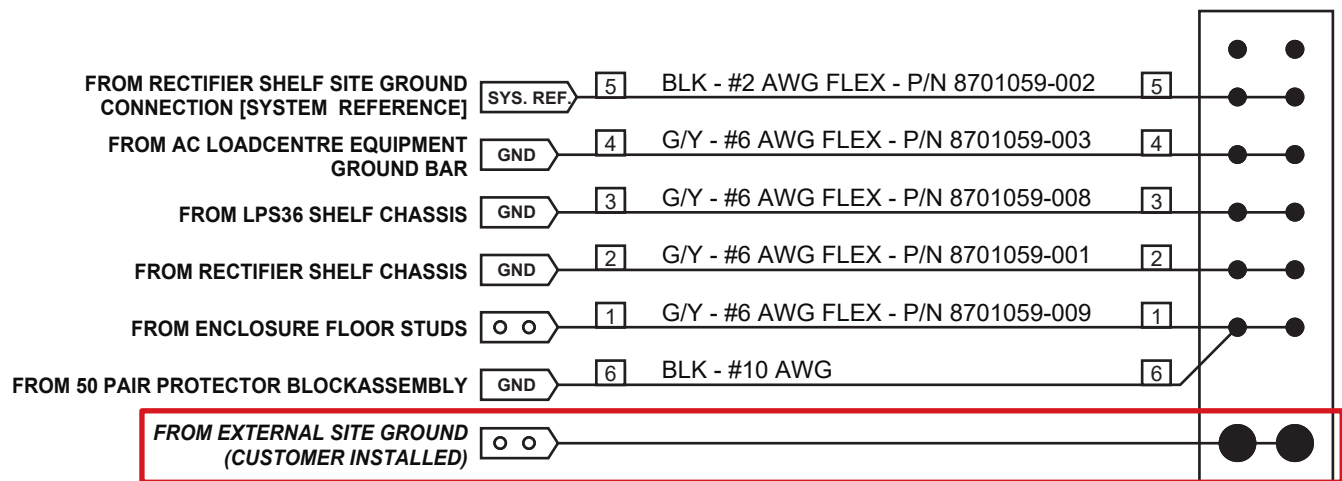

Figure 6 — CPH-48 enclosure master ground bar wiring
3. Connect the length of conductor to the VGR via an irreversible compression connector or exothermic weld and connect the other end to the Enclosure MGB using a suitable two-hole compression lug. The enclosure MGB accepts a two-hole lug with 3/8" holes on 1" centers (refer to Figure 6).